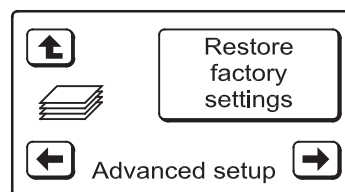

FIG. 77
4. Press the LEFT (←) button to display the screen shown in Figure 77.